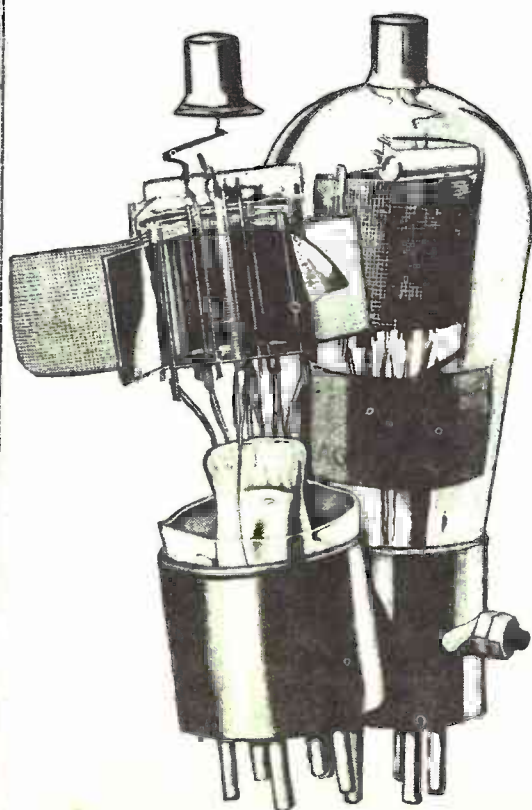

Fig. 42 - The Pentode, Raytheon Type "BH," and the types '80 and '81 rectifiers are shown in this illustration.
(9) Gas Rectifier Tubes. The gas-rectifier tube is largely employed in "B" eliminators, of which the Raytheon type "BH", illustrated in Fig. 42, is a typical example. These rectifiers depend upon ionization of gas for their action and take advantage of the difference in size of their electrodes for "unilateral" (one-way) conductivity. In the one illustrated, the two small electrodes connect to the 350-volt output termin-
(10) The Pentode. A new tube to make its appearance on the market is known as the five-element pentode. While not in general use, it is fast becoming popular, and a brief description may not be amiss. It is somewhat similar to the four-element screen-grid tube described above, but with the addition of a "space-charge" grid surrounding the cathode; the connection to this extra grid being brought out to a terminal on the side of the tube base. The remaining terminals are similar to those of the '24 type screen-grid tube. A very high amplification factor is claimed, one stage being sufficient in the audio amplifier. An amplification factor as high as 750 may be obtained with a plate voltage of 250, screen-grid voltage of 135 (positive) and space-charger-grid voltage of 20 (positive). The heater filament is similar to that of the '24 type. An illustration of this tube is also shown in Fig. 42.
(11) Filament Rectifier Tubes. The half-wave '81 and full-wave '80 rectifiers are largely employed in A.C. receivers, and in some cases to supplying field current for dynamic speaker. Characteristics of these tubes are given in the chart. Failure is usually due to internal breakdown, manifesting itself in the form of a blue glow within the tube. When this takes place, the tube may be operated successfully at a lower voltage, but it is usually best to replace it. Circuit connections are shown in Chapter III as well as in many of the diagrams of this book.
(12) Vacuum-Tube Tests. Vacuum-tube tests on any radio set should be conducted systematically. Suppose we arrange our tests in the following order: